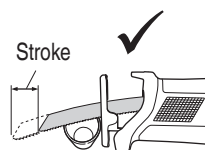
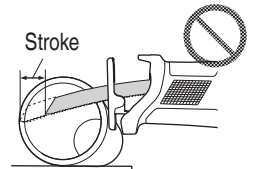
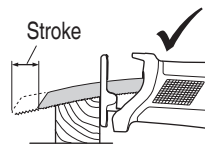
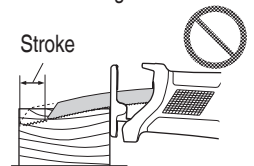

Fig. 15
Fig. 16
Fig. 17
Fig. 18
- Select a saw blade of the most appropriate length. Ideally, the length protruding from the base of the saw blade after subtracting the stroke should be larger than the material (see Fig. 15 and Fig. 17). If you cut a large pipe, large block of wood, etc., that exceeds the cutting capacity of a blade; there is a risk that the blade may contact with the inner wall of the pipe, wood, etc., resulting in damage. (Fig. 16, Fig. 18)